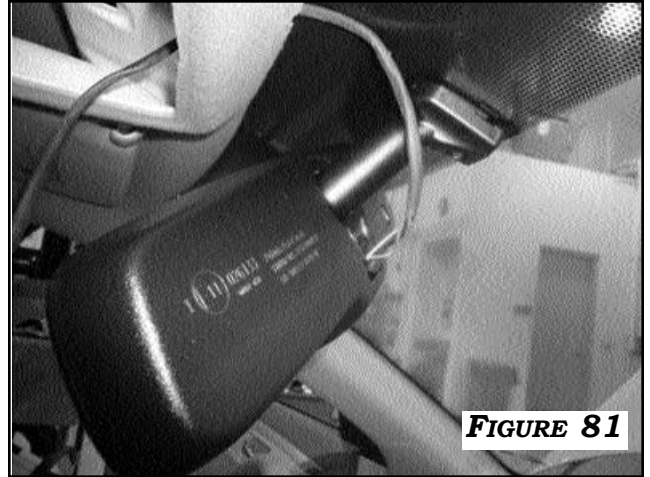

FIGURE 81
1. MOUNT REARSIGHT MIRROR ON EXISTING WINDSHIELD LUG AND TIGHTEN SCREW. **FIGURE 81.**